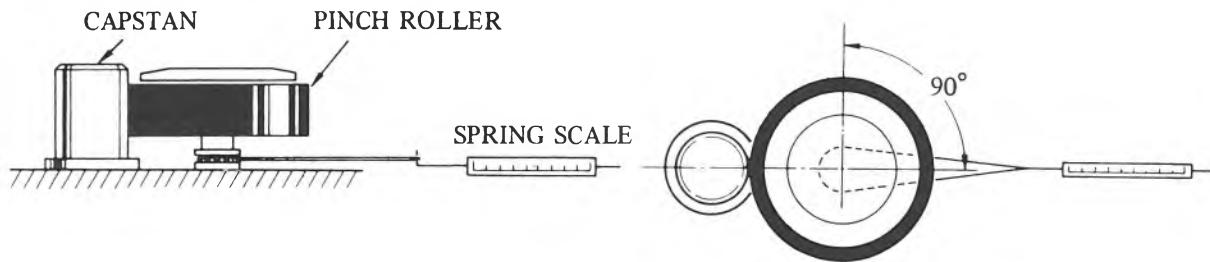

Fig. 4.3
- 2) Attach a suitable spring scale to the pinch roller shaft with a short loop of twine. (shown in Fig. 4.3.)
- 3) Put the G16 in the PLAY mode, and positioning the scale as illustrated in Fig. 4.3, slowly draw it in the direction opposite the capstan until the pinch roller stops rotating as shown in the Fig. 4.3.